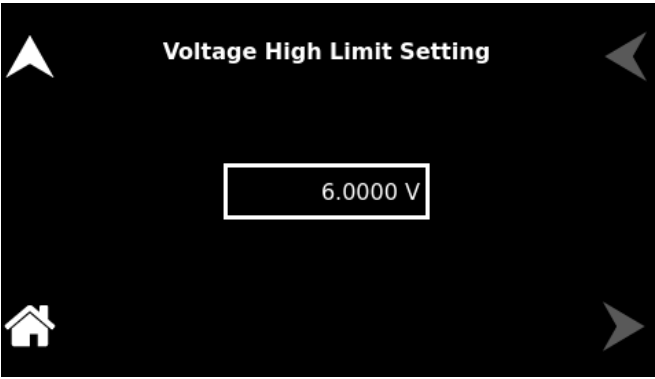

Figure 10-31. Voltage High Limit Setting
**Voltage High Limit** Users can set the voltage high limit value, and it regulates the output upon reaching the Voltage High Limit. Refer to Figure 10-31.